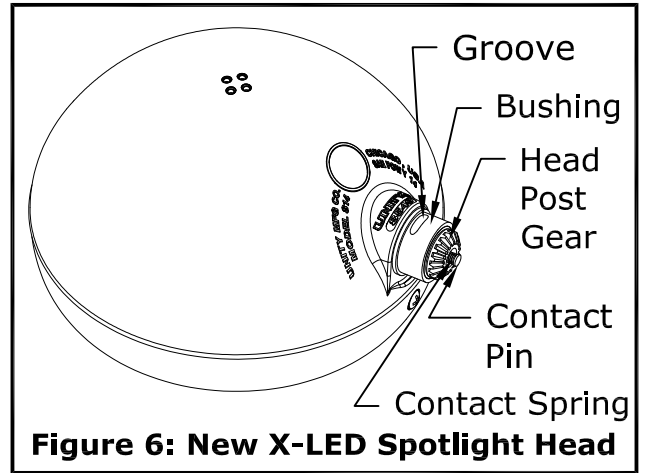

Figure 6: New X-LED Spotlight Head
1) Check Bushing and Contact Pin (Figure 6)
Check the bushing orientation. If necessary, rotate *Bushing* so that its groove is facing up as shown in Figure 6.